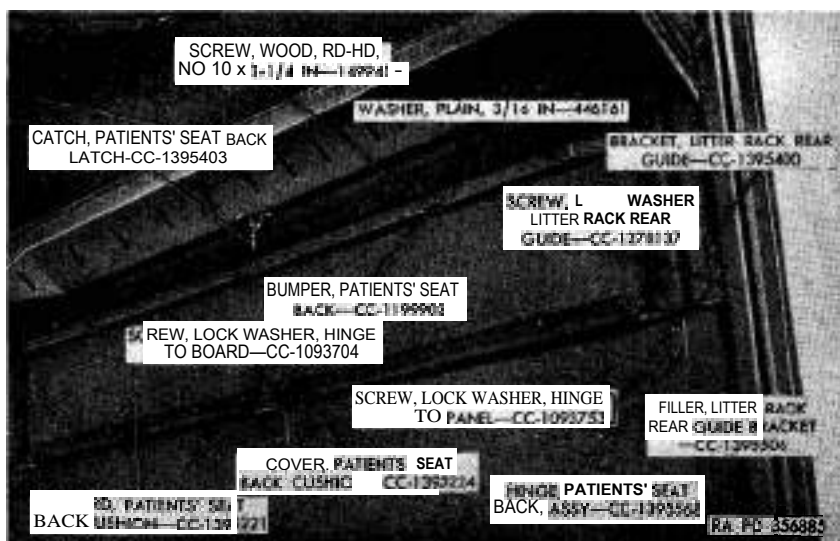
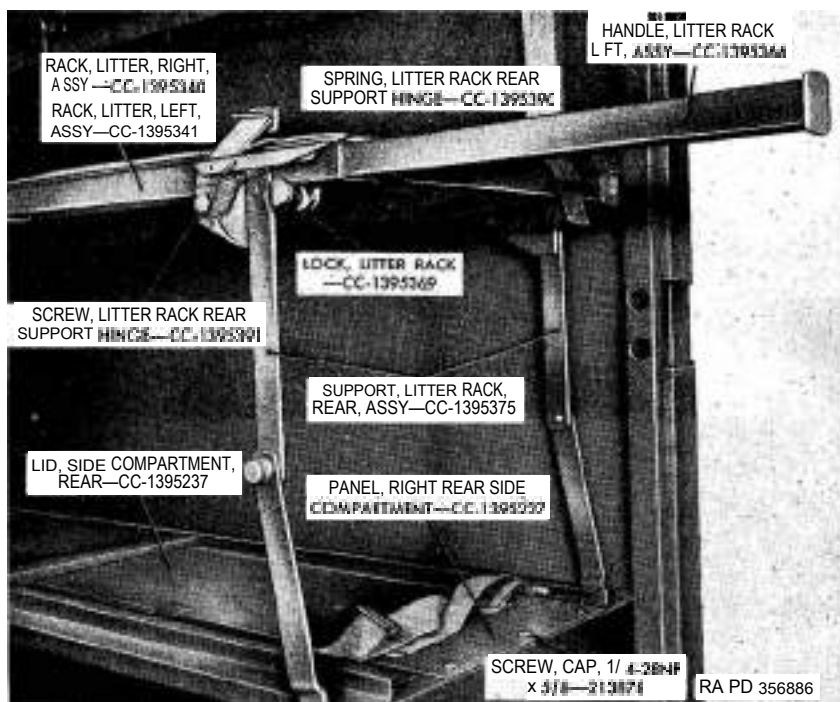
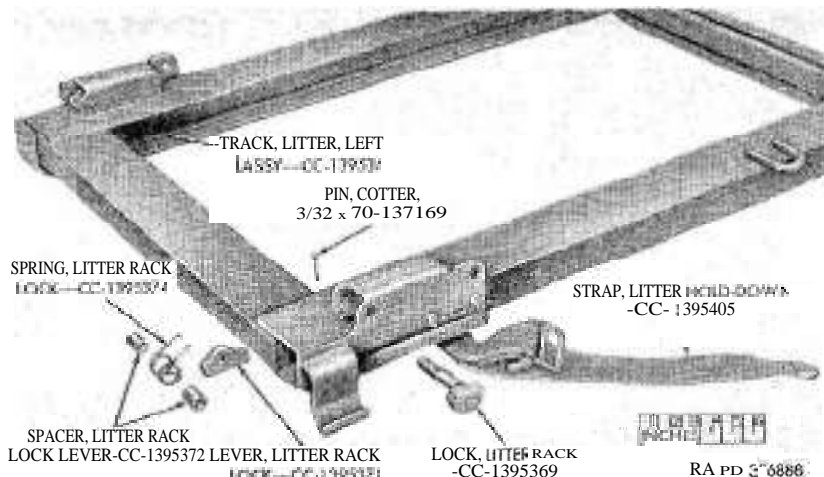

Figure 212. Patients' seat back cushion assembly and litter rack rear guide bracket.
Figure 213. Litter rack and litter rack rear support.
Figure 215. Litter rack lock and related parts.
b. Remove Patients' Seat Back Cushion Assemblies (fig. 212).
- (1) Remove six hinge-to-panel lock washer screws. This will release the hinges from the body inside panel. Release patients'-seat-back-latch catch and remove patients' seat back cushion assembly.
- (2) Release fasteners; then remove patients' seat back cushion cover and patients' seat back cushion pad.
- (3) Remove latch catch lock washer screws. This will release the patients' seat back latch catch from the patients' seat back cushion board.
- (4) Remove hinge-to-board lock washer screws; then remove patients' seat back hinge assemblies from board.
- (5) Remove screws and lock washers; then remove the three patients' seat back bumpers from each board.
- (6) Do not remove patients' seat back cushion cover fastener sockets from patients' seat back cushion board unless inspection (par. 284a) reveals replacement is necessary. If replacement is necessary, remove sockets.
c. Remove Litter Rack Rear Guide Brackets (fig. 212). Remove four litter rack rear guide lock washer screws ; then remove litter rear guide brackets and litter rack rear guide bracket fillers from inside body panels.
d. Remove Right and Left Litter Rack Assemblies (fig. 213).
- (1) Pull out litter rack lift handle assemblies and place rear of litter rack assembly in raised position (front end down). Remove patients' seat cushion assemblies from litter rack assembly.
- (2) Remove screws, nuts, and lock washers, which attach the rear side compartment lid to side compartment. Remove lid.
- (3) Remove nuts, lock washers, and screws from rear side compartment panel. Remove panel. Remove litter rack rear support cross shaft bracket lock washer screws from litter rack rear support cross shaft brackets.
f. Remove Litter Rack Lock and Related Parts From Litter Racks (fig. 215).
- (1) Turn litter rack locks and remove litter rack lift handle assemblies from litter rack.
- (2) Remove cotter pin and pull litter rack lock from bracket on litter rack. Remove litter rack lock lever, litter rack lock lever spacers, and litter rack lock spring from each side of litter rack.
a. Inspect Patients' Seat Back Cushion Assembly (fig. 212).
- (1) Inspect patients' seat back cushion cover for wear or other visual damage. If either of these conditions exist, replace cover.
- (2) Inspect patients' seat back cushion cover fastener sockets for damage. If any of the sockets are damaged, replace as required (pars. 283b and 285j).
- (3) Inspect patients' seat back cushion pad for deterioration or other visual damage. Replace pad if not in good condition.
- (4) Inspect patients' seat back cushion board for cracks,
- (1) Inspect litter rack assembly (fig. 215) for broken welds, corrosion, or distortion. Broken welds can be repaired by welding. If litter racks are distorted or damaged by corrosion, replace as required.
- (2) Inspect litter rack lift handle assemblies (*fig.* 213), for cracks, broken welds, distortion, or corrosion. Broken welds can be corrected by welding. If handles are distorted or damaged by corrosion, replace handles.
- (3) Inspect litter hold down straps (*fig.* 215) for wear or deterioration. Replace straps if either of these conditions exist.
- (4) Inspect litter rack locks (*fig.* 215) for bent or broken shafts. If either of these conditions exist, replace locks.
- (5) Inspect litter rack lock levers (fig. 215) for cracks or wear. If either of these conditions exist, replace levers as required.
- (6) Inspect litter rack lock springs (*fig.* 215) for cracks or distortion. Replace springs if either of these conditions exist.
- (7) Inspect litter rack lock lever spacers (*fig.* 215) for damage. If spacers are damaged, replace as required.
- (2) Inspect litter rack rear support hinge springs (fig. 213) for cracks or distortion. If either of these conditions exist, replace spring.
e. Inspect Litter Rack Rear Guide Bracket and Related Parts (fig. 212).
- (1) Inspect litter rack rear guide bracket for cracks or distortion. Straighten bracket if distorted. Replace bracket if cracked.